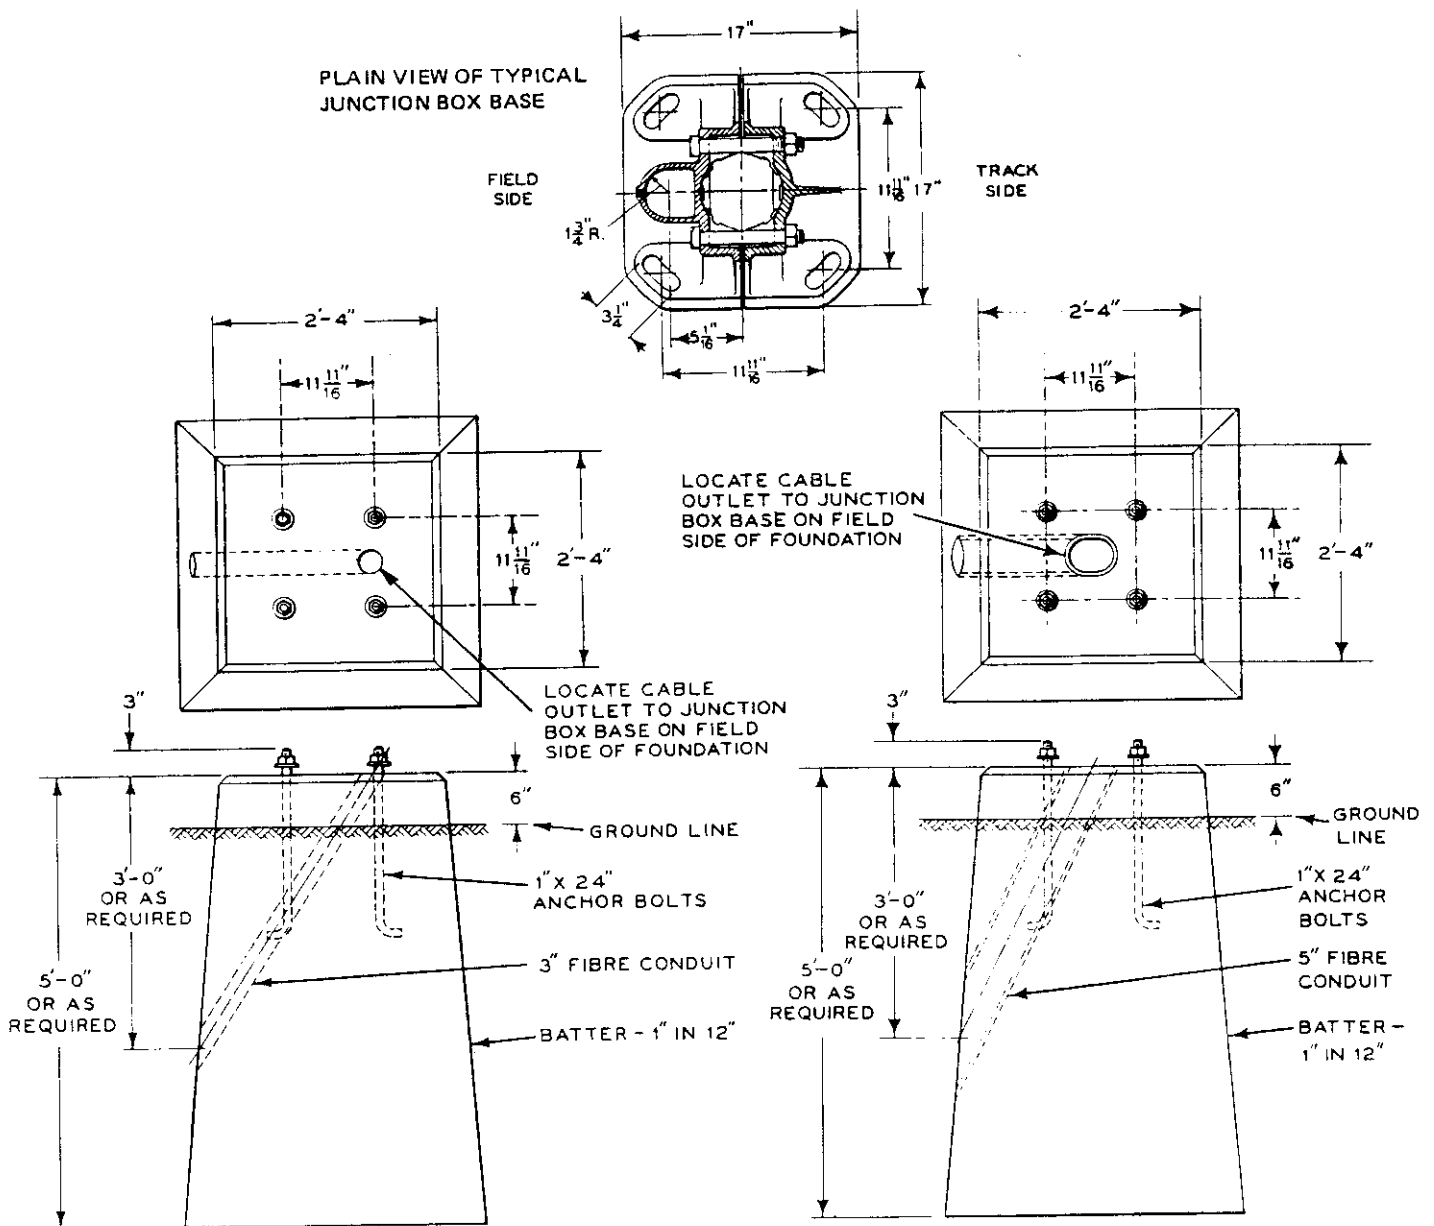

Figure 4. Foundation and base plan.
1. A recommended concrete foundation for use with a junction box base is shown in Figure 4. When attaching the base to the foundation, be sure that the junction box and cross arm are in proper position in relation to the roadway.